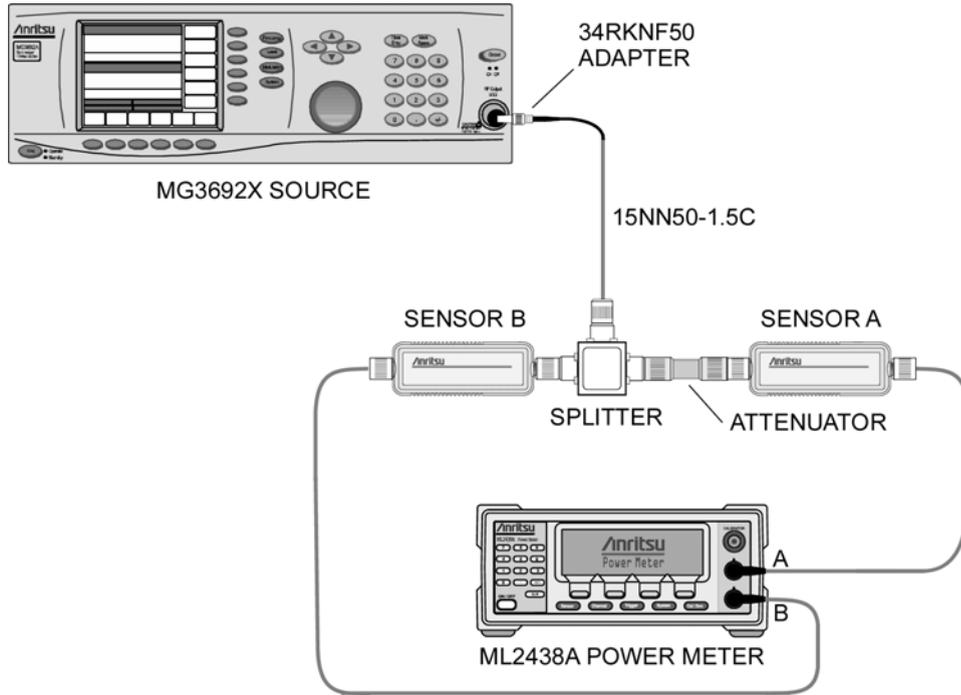

Figure 2-1. Level Accuracy with Frequency Test Setup
9. Connect the power splitter to the MG3692X output and Sensor B to one of the power splitter outputs. Install the 10 dB Fixed Attenuator to the other power splitter output and then connect Sensor A to the end of the Attenuator. Refer to Figure 2-1.
25. Connect the power splitter to the MG3692X output and connect Sensor B to one of the power splitter outputs. Install the 30 dB fixed attenuator to the other power splitter output, and connect Sensor A to the attenuator. Refer to Figure 2-1.